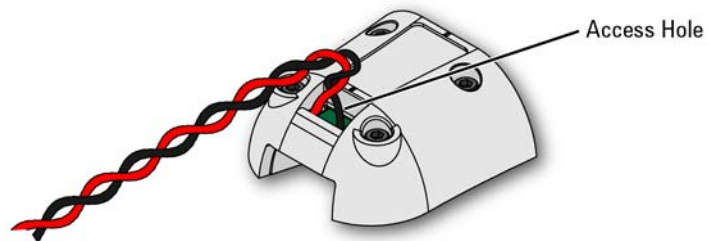

Figure 5 Placing the Leads into the Tip’s Access Hole
- 1 Position the sensor leads into the head’s access hole as shown in Figure 5.